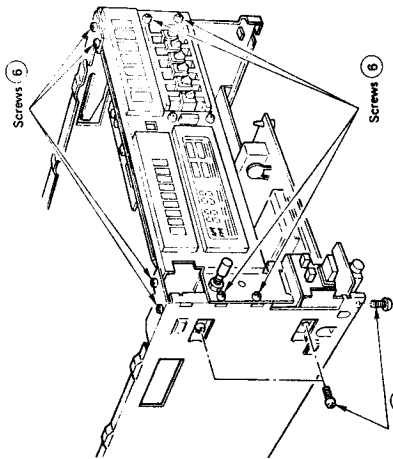

Fig. 6
- 2) Remove eleven screws (6) shown in Fig. 6, then remove the front chassis assembly by pulling forward.